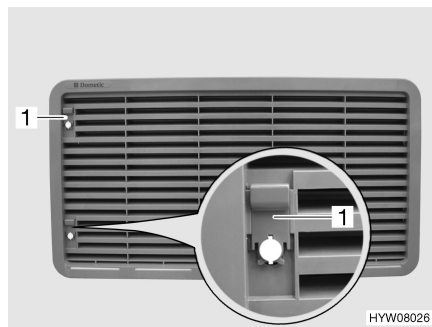

Fig. 84 Refrigerator ventilation grill (with sliding trap)
- Push sliding trap (Fig. 84, 1) upward.